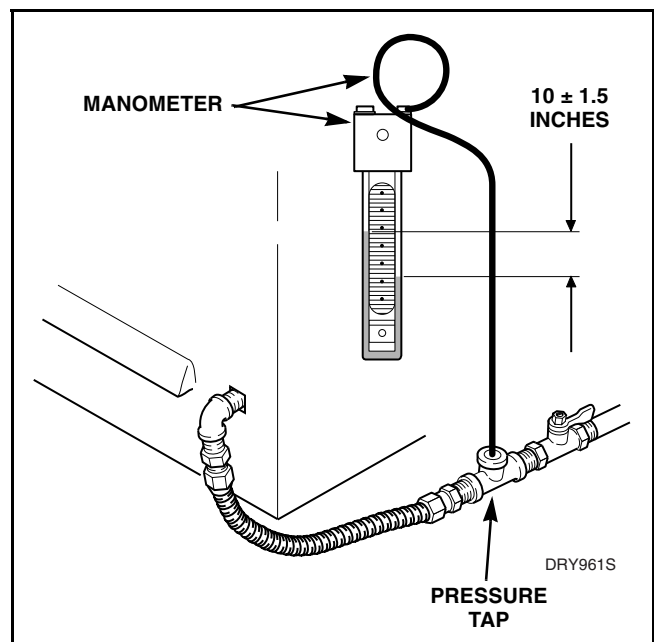

Figure 41
**NOTE:** When converting the dryer gas valve to L.P. gas, be sure the incoming gas supply line is equipped with a pressure regulator (located ahead of the dryer) that will maintain the gas supply to the dryer at  $10 \pm 1.5$  inches ( $25.4 \pm 3.81$  cm) water column pressure and a vent to the outdoors must be provided. Remove pressure tap pipe plug and check gas pressure by connecting a "U" tube manometer (or similar pressure gauge) to the pressure tap. Refer to *Figure 41*.